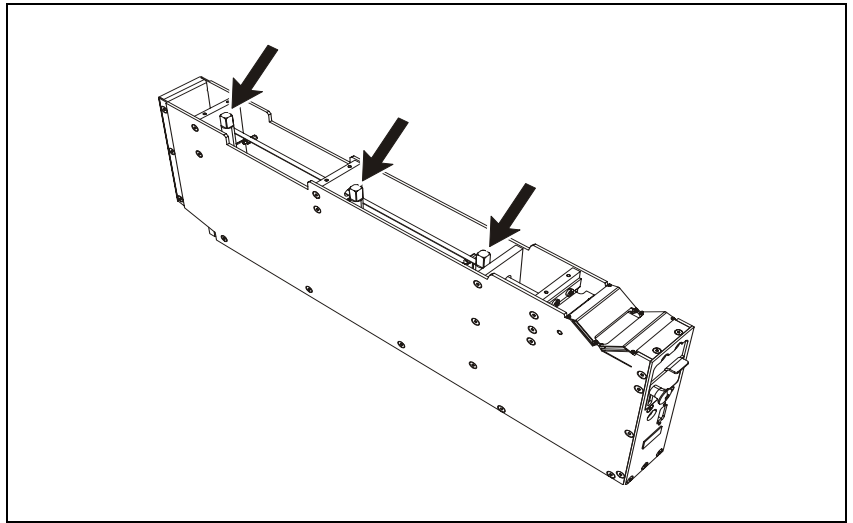

Figure 5-12. Loosen bars
5. Loosen the three bars in the camera box with a 9mm universal screw spanner. See Figure 5-12.